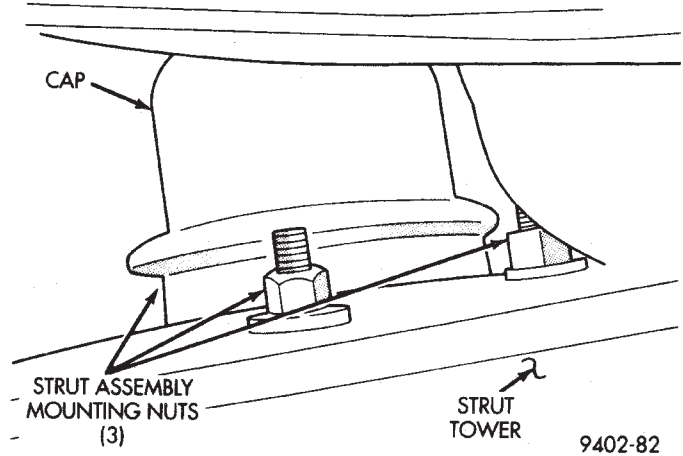

Fig. 14 Strut Assembly Mounting Nuts
NOTE: When removing rear strut assembly from vehicle, access for the 3 rear strut assembly to strut tower attaching nuts is through the trunk of the vehicle. See (Fig. 14) for access location of the strut assembly attaching nuts in trunk of vehicle.
(13) Remove the 3 strut assembly to rear strut tower mounting nuts (Fig. 14) and remove strut assembly from vehicle.
(1) Position strut assembly back in vehicle with the 3 studs on the strut mount through holes in strut tower. Install the 3 strut mount to body attaching nuts onto mount studs (Fig. 14). Using a crow foot and 3/8 in. torque wrench, tighten the 3 strut mount attaching nuts to a torque of 28 N·m (20 ft. lbs).